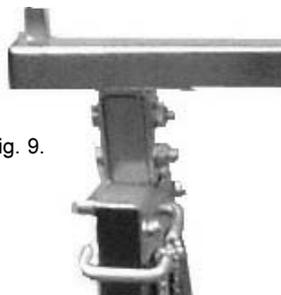

Fig. 9.
3.5. To complete assembly slide the platform bar assembly into the upright supports and insert the safety pins when platform bar is at the desired height (fig. 9.).